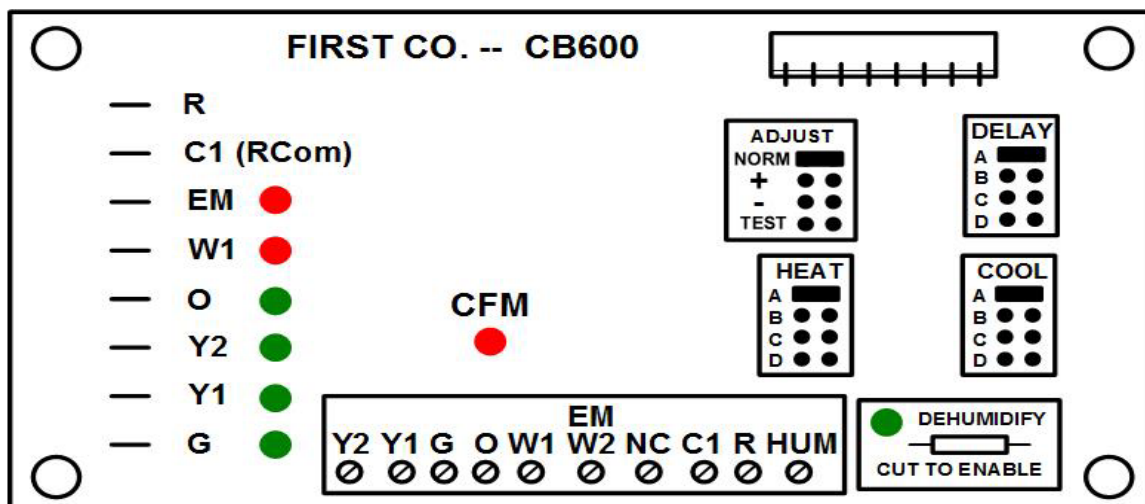

FIGURE 6. - Select Control Board
- The delay profile is factory set on "Arid" setting (A).
- COOLING SELECT TAP** Select system airflow for cooling output. See Figure 6.
- HEATING SELECT TAP** Select system airflow for heat output. See Figure 6.
- ADJUST SELECT TAP** Select system CFM airflow requirement. See Figure 6.
- DELAY SELECT TAP** Select desired delay profiles. See Figure 6.